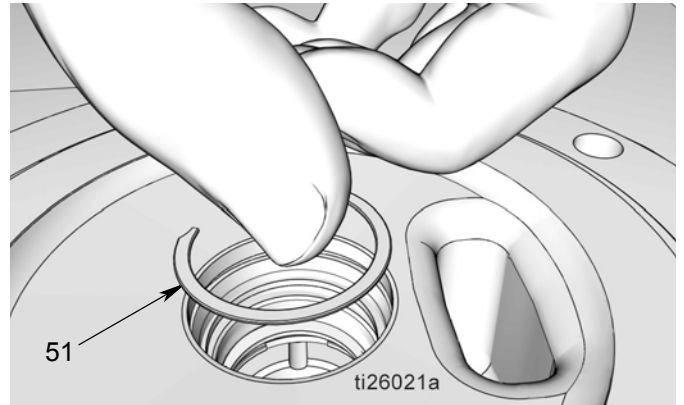

FIG. 34
- f. Install retaining clip (51) (FIG. 34). You should hear a "click" when the retaining clip is correctly seated in the groove.